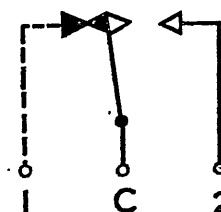

Fig. 4. Wiring diagram
7. Connect a multimeter, switched to its ohms range, between terminals c and 2 (*fig. 4*). Set the operating knob to ON and note that the multimeter reads zero ohms. Release the operating knob and
8. With an insulation tester, Type C connected between terminals c and 2 (*fig. 4*) and with the operating knob in the OFF position the minimum insulation resistance permissible is 20 megohms. Repeat the test with the operating knob in the ON position and the insulation tester connected between terminals c and 1.